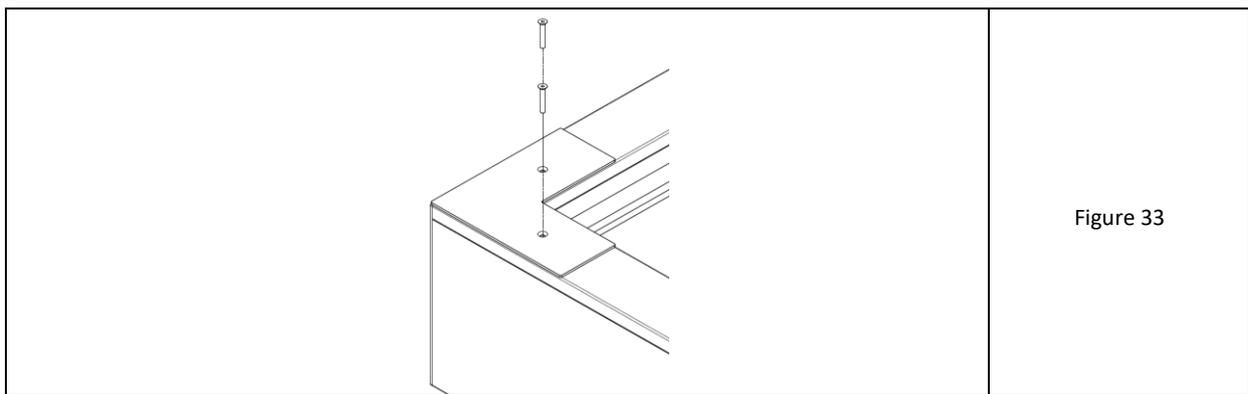

Figure 33
7. Before application, it is advisable to degrease the underside of the plug and apply sealing compound. Place the blanking plugs on the revisions and fit the holes. Tighten from above with M5x35 countersunk screws with Allen socket (Fig. 33). After tightening, seal the screw heads with sealing compound.